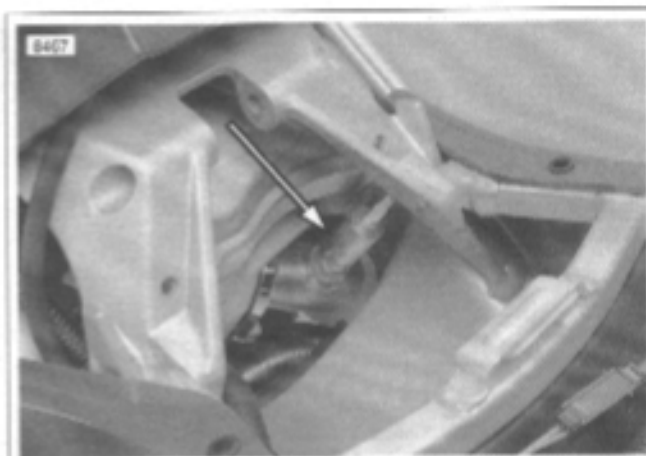

Figure 4-38. Oxygen Sensor (shock absorber removed)
- **Loose O2 sensor.** See Figure 4-38. If the O2 sensor is loose engine performance may be affected. This could also show up as a slow changing O2 sensor voltage.